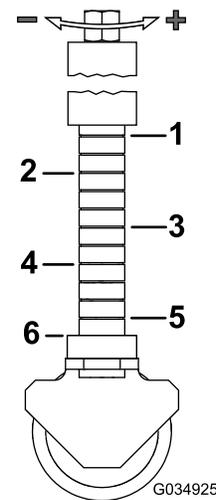

Figure 28
**Note:** Refer to Figure 28 for the height-of-cut settings.